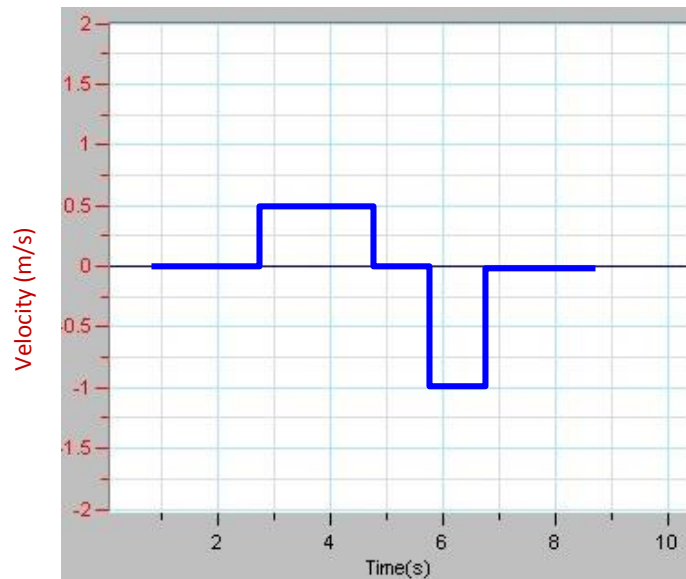

Figure 3: Velocity vs. Time graph
6. Repeat steps **Error! Reference source not found.**3 to 5**Error! Reference source not found.****Error! Reference source not found.** to match the following graph (Figure 3):
6. Describe how you walked in order to match the graph in Figure 3.